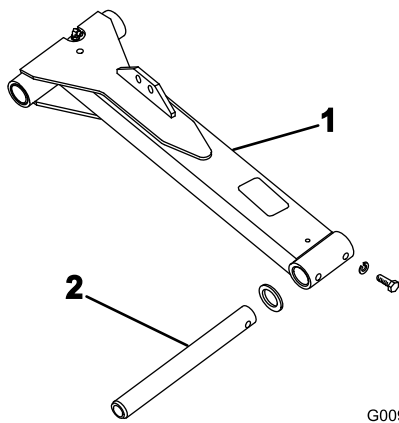

Figure 5
1. Insert a pivot rod into the left lift arm and align the mounting holes (Figure 5).